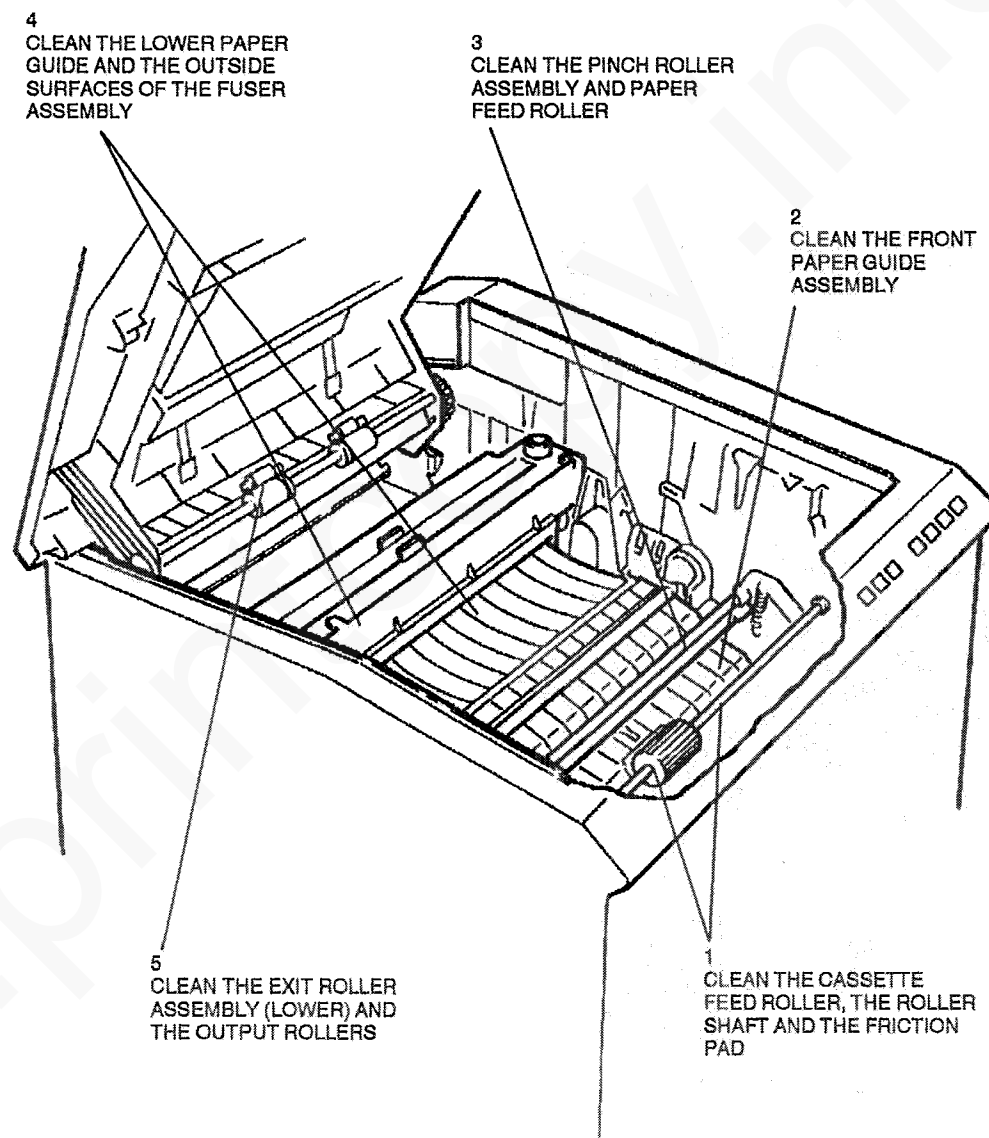

Figure 1. Paper path cleaning
4. (Figure 1) Clean the entire paper path using a soft cloth and general cleaning solvent 8R90176.